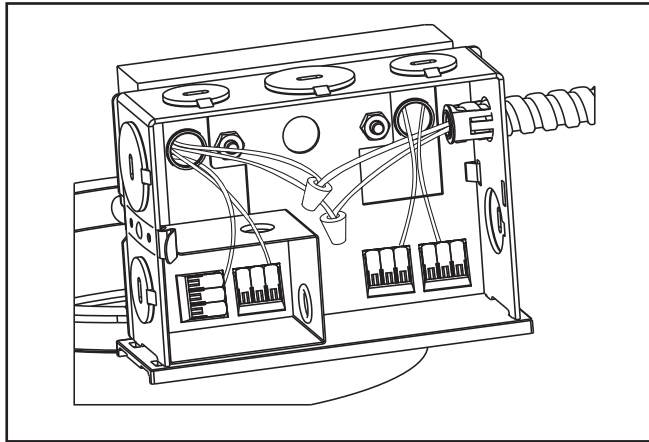

Figure 41
1. Provide electrical service according to the “National Electrical Code” or your local electrical code to the junction box (located on the plasterframe). Supply wire insulation must be rated for at least 90°C. The junction box is listed for (4) #12 AWG (two in, two out) 90°C conductors and feed thru branch wiring for type IC and Plug in drivers for 120/277V only. For all other cases (8) #12 AWG (four in, four out) 90°C conductors and feed thru branch wiring for 120/277V only.
2. Remove junction box cover (Figure 41).